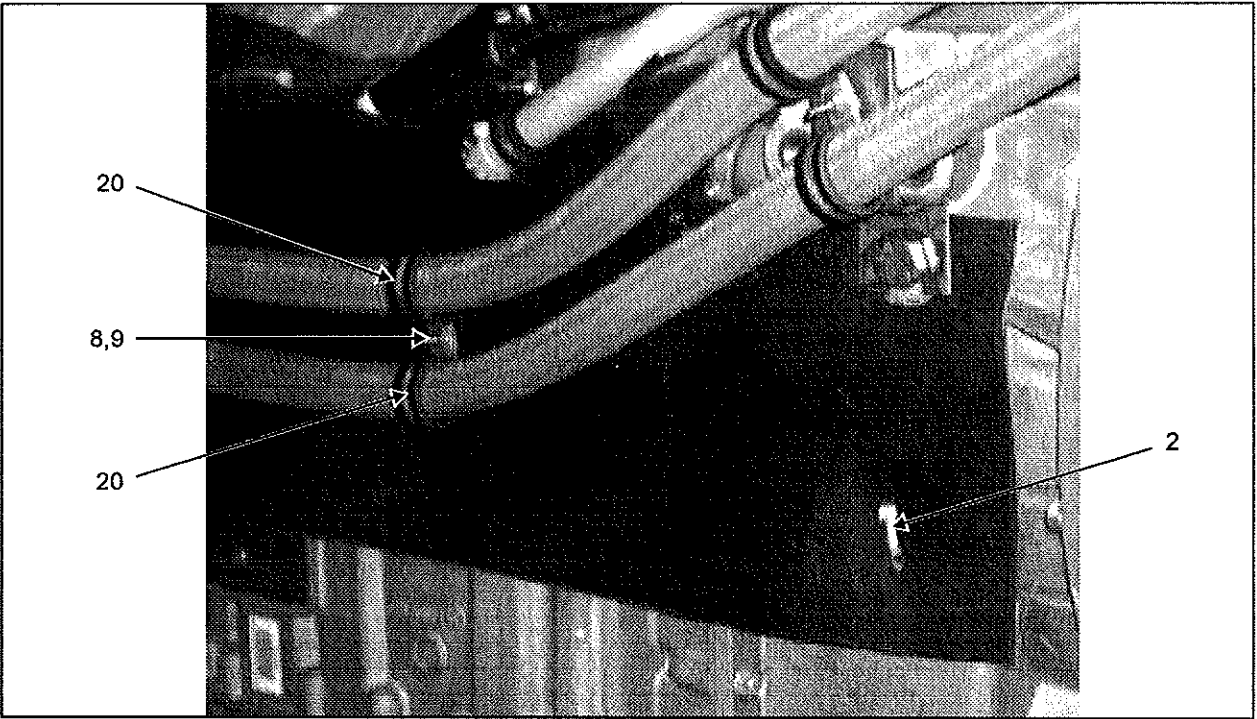
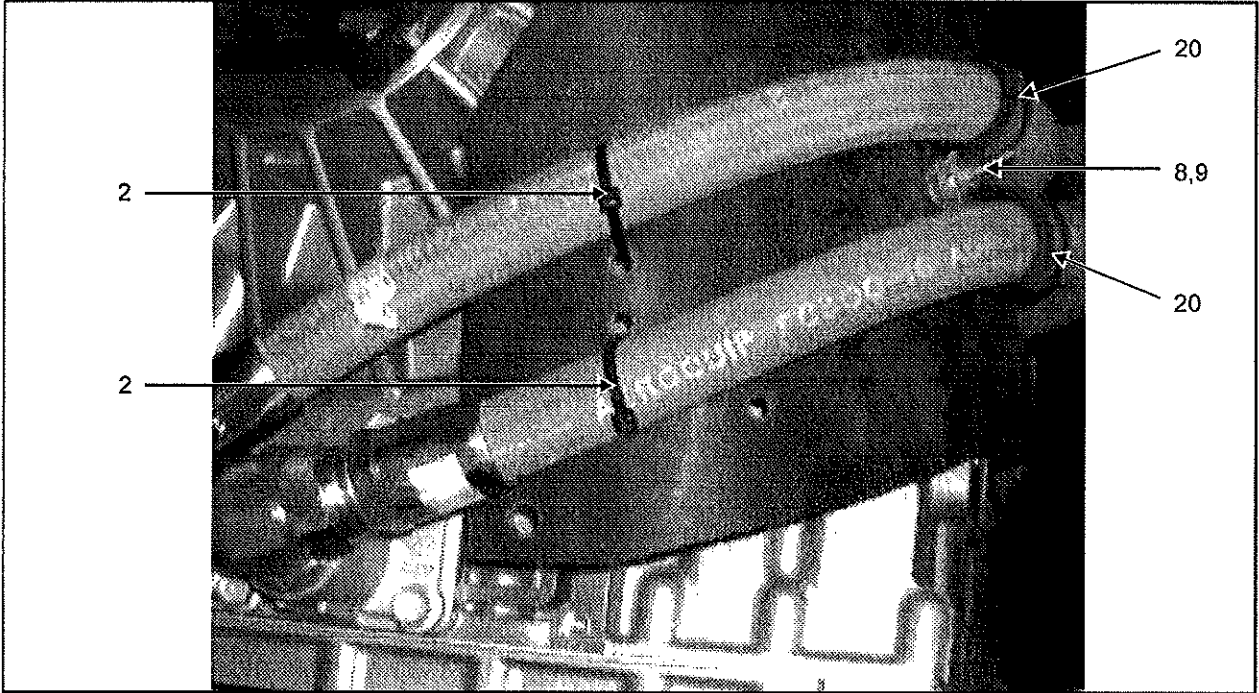

FIGURE 11
FIGURE 12
23. Reinstall hydraulic hoses' bracket to converter housing taking care to position shield in between converter housing and bracket (**Figure 11**).
24. Secure shield to converter housing using cable tie (2).
25. Secure hydraulic hoses with retaining clips (20), lock washer (8) and nut (9) using retaining clip screw installed in previous step 11.
26. Secure hydraulic hoses with retaining clips (20), lock washer (8) and nut (9) using bracket screw installed in previous step 13 (step 14 for vehicles with a retarder) (**Figure 12**).
27. Attach shield to hydraulic hoses using cable ties (2).